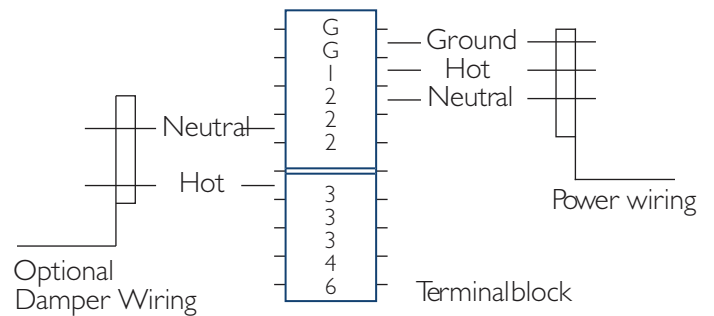

FIGURE 5
2. Connect 120V/1 ph power through the power inlet gland (1/2" or 3/4" conduit hole) and up to the terminal block and connect hot to 1, neutral to 2 and ground to ground (see Figure 5).
3. If a powered shut-off damper is being used, power the damper from positions 2 and 3 (see Figure 5).